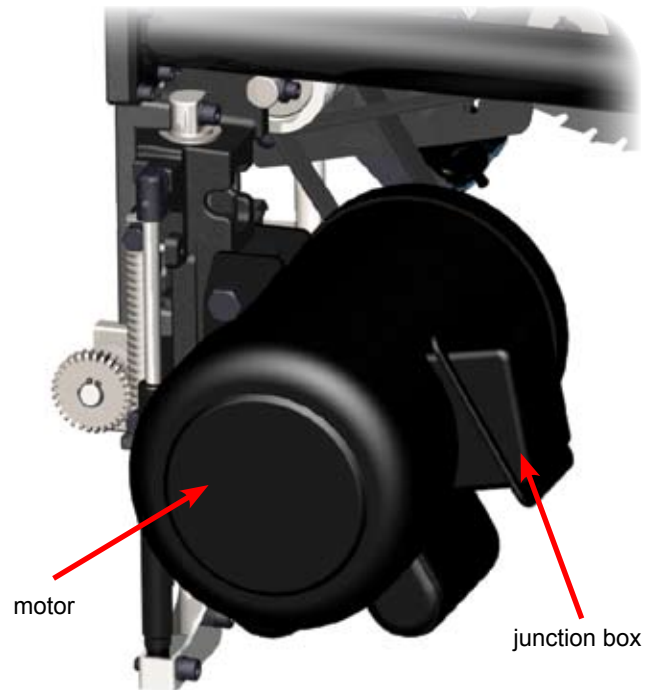

Fig. 47
- Open the motor cover, locate the junction box underneath the motor (see Fig. 47 on page 35) and remove the cover by loosening the Phillips-head screw.